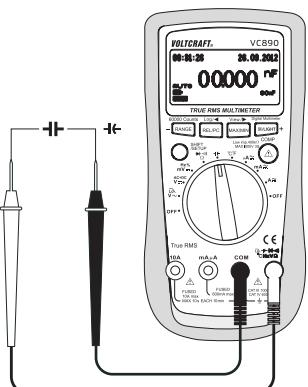

Fig. 8
2. Insert the red test lead in the °CHzVΩ measuring socket (7), the black test lead in the COM measuring socket (8) (Fig. 8).